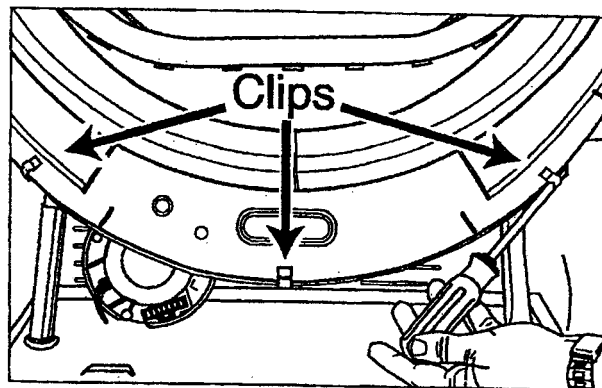

Figure 2-42
- Using a flat-bladed screwdriver, slide under the clip and pry to remove. Remove the remaining clips from the outer tub cover (*Figure 2-42*).